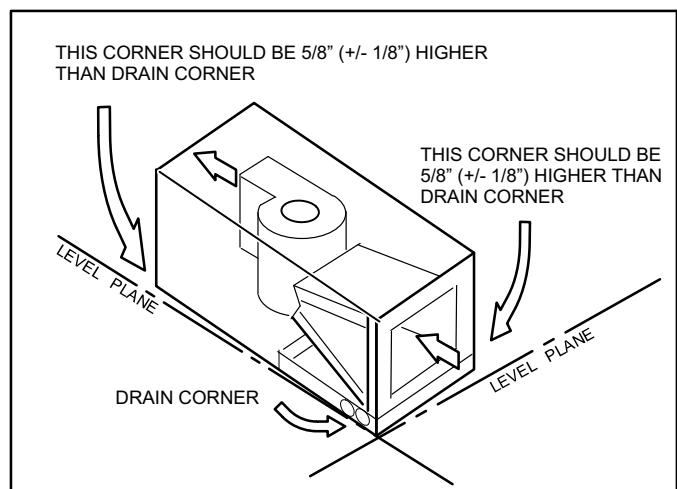

Figure 25. Sloping the Drain
3. Set unit so that it is sloped toward the drain pan end of the unit (see figure 25).
Make sure the unit is sloped (similar to the slope shown in figure 25) (horizontal or upflow) so that the drain pan will empty completely without water standing in the pan.